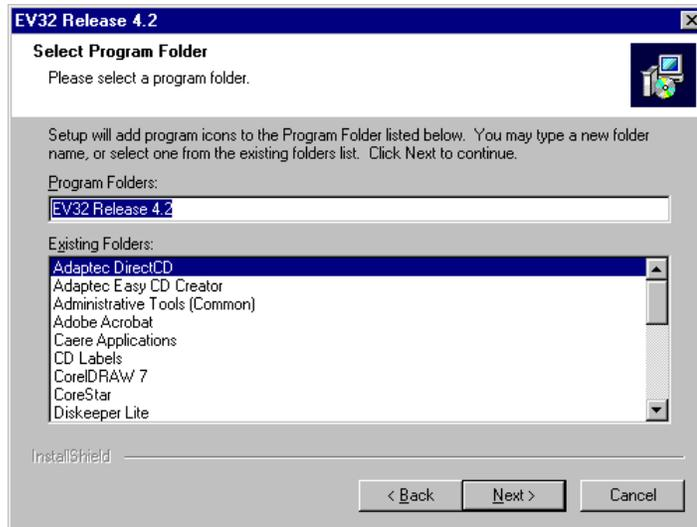
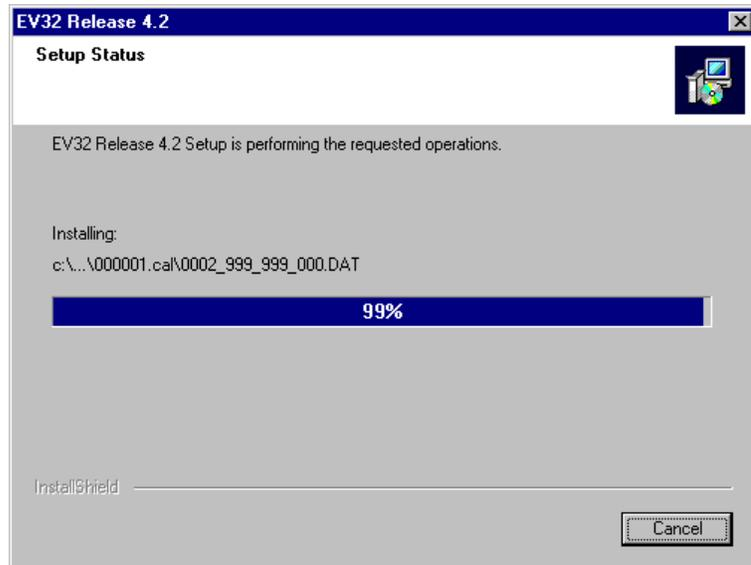

Figure 2-3. Program Folder Selection Window
Figure 2-4. Installation Status Window
- The window shown in Figure 2-3 appears. Either select, enter the name for a new program folder, or accept the default name where the program shortcuts will be stored on the Start Menu. The default name for the program folder is *EV32 Release 4.x* where *x* is the current release of version *EddyVISION32 v4*.
7. Click the **Next** button on the window shown in Figure 2-3. The installation process begins. During the installation, the status window in Figure 2-4 will show the progress of the installation.
8. When the status bar shown in Figure 2-4 reaches its end, the message box shown in Figure 2-5 will appear. This message box simply notifies you that the driver for the HASP™ security key is currently being installed. Once the driver is successfully installed, the message box shown in Figure 2-6 will appear. Simply click **OK** to continue. HASP is the brand name of the enable modules used with CoreStar software products that attach to the PC's printer port.